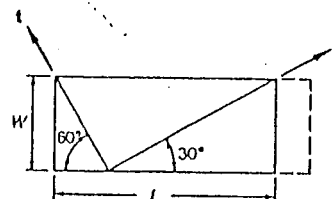

Fig. P2.38
2.38. A thin rectangular plate is deformed uniformly into another rectangle as shown in Fig. P2.38. The extensional strain along its length is .02 and the width remains unchanged. Compute approximately the shear strain γ_{xx} .